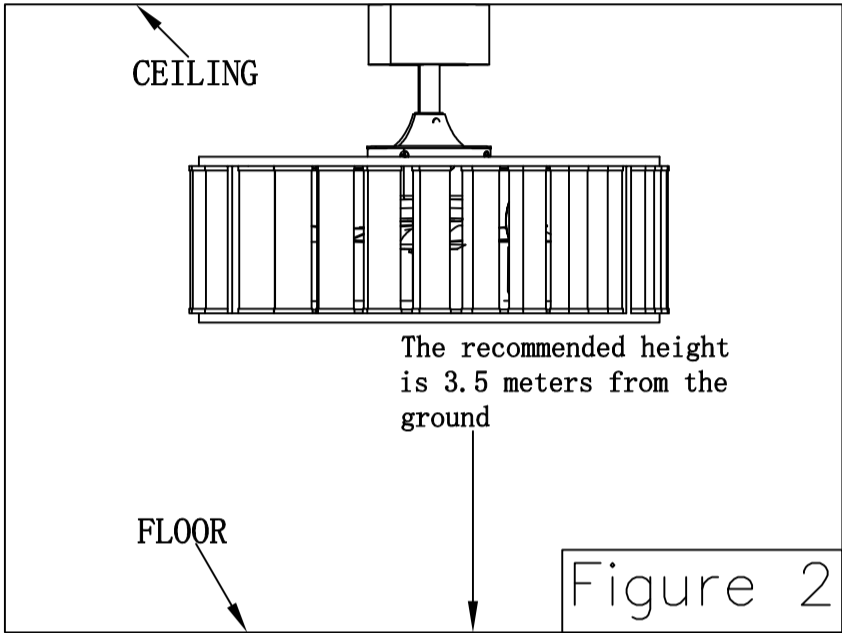

Figure 2
- Remove the hairpin clip and clevis pin from the bottom of the downrod. Retain the pin and clip for reinstallation in Step 4. (Figure 2)
WARNING:The fan must be hung with at least 10'ofclearance from floor to ceiling fan. (Figure 2)